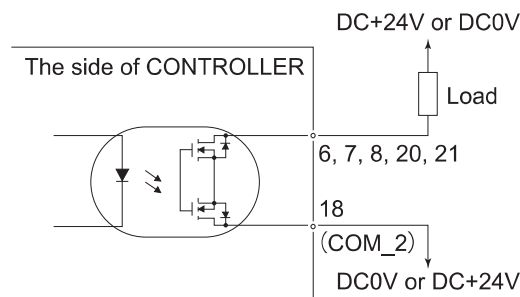

Fig. 23
(4) Setting the Motor Speed
Setting parameter  to ON allows the motor speed to be adjusted in Auto Mode using the Motor Speed Adjustment Button (SPEED  , ) ⑮ of the Fig. 23.
Use an external power source for output circuits. It is recommended to use the same DC+24V power source used for input signals. Please refer to Fig. 23 for connections.